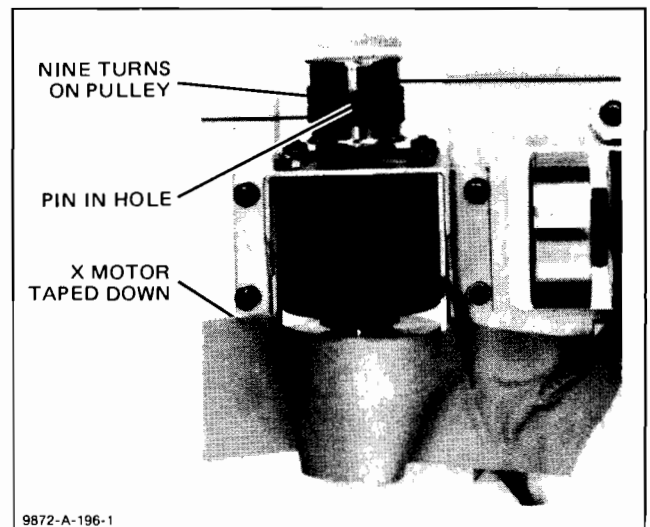

Figure 6-27. X Motor and Pulley Windings
- a. Turn the X-motor pulley so that the pin hole is directly up. See Figure 6-27.